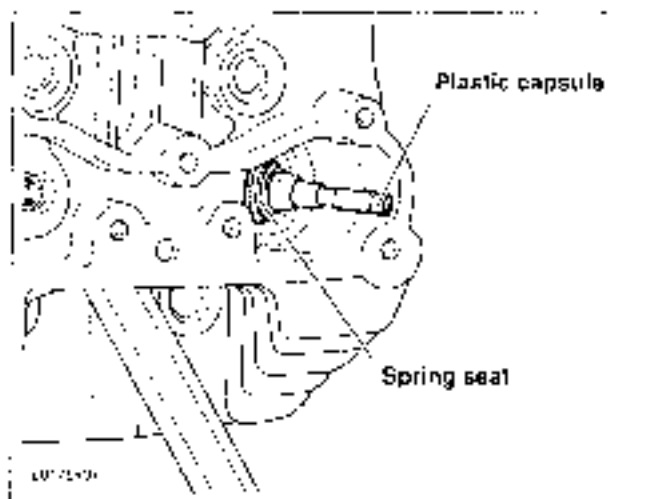

Figure 3-103. Install Plastic Capsule
- See Figure 3-103. Push on bottom of valve until it contacts the valve seat. Placing finger at bottom of valve to keep valve seated, slide plastic capsule over valve stem tip and keeper groove.